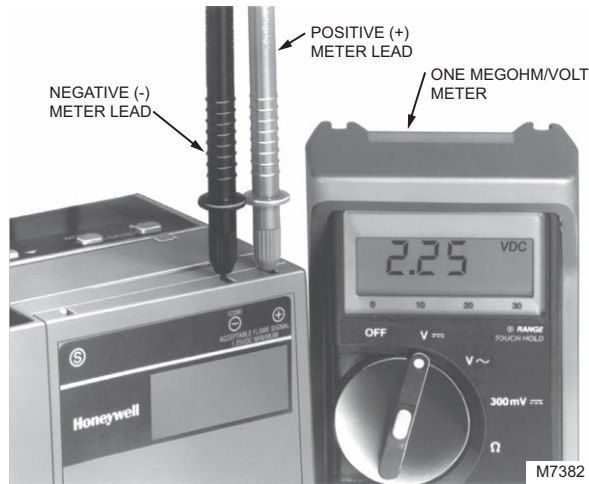

Fig. 21. Flame signal measurement.
Measure the flame signal at the appropriate times defined in the following checkout tests. Read the flame signal volts dc at the flame amplifier test jacks + and - (Com). See Fig. 21 and Table 13.
3. Insert the positive (red) probe into the + jack of the flame amplifier and the negative (black) probe into the - (Com) jack of the flame amplifier (see Fig. 21).